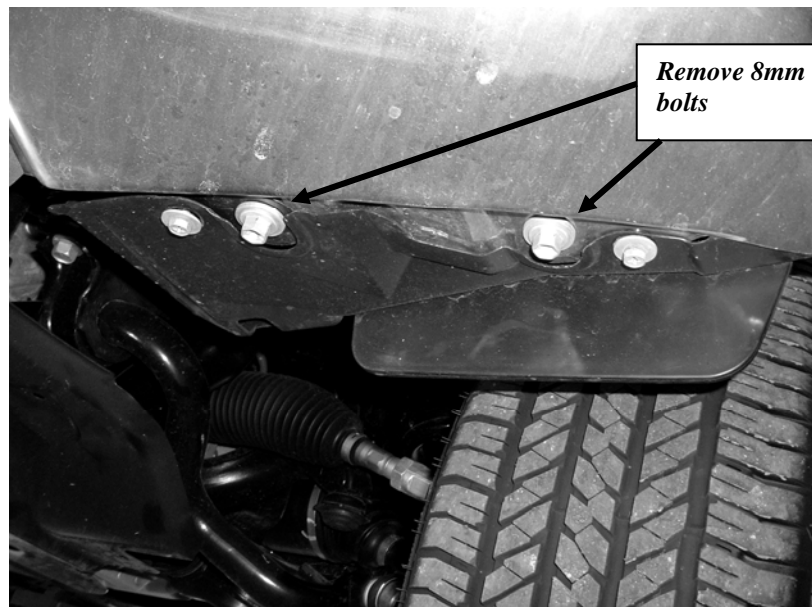

Figure 5 Bumper bottom LH
7. Remove two(2) 8mm bolts from the bottom of each end of the bumper and remove the splash shields. **Figure 5**